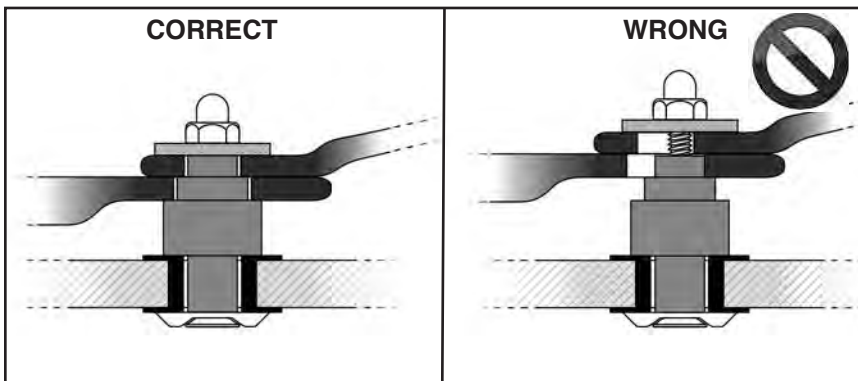

Figure 6
**!** Outboard and Inboard Bushings must be fully seated in frame to tighten assembly correctly. Figure 6